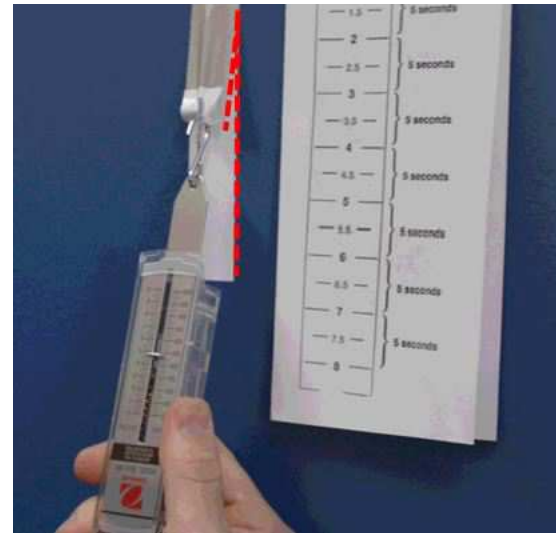

Figure 5. Adhesion test
4. Tape the Measured Reference Guide next to the Product strip you are testing. See Figure 5, “Adhesion test,” on page 7.
The Measured Reference Guide in Figure 5 is included at the end of this guide.